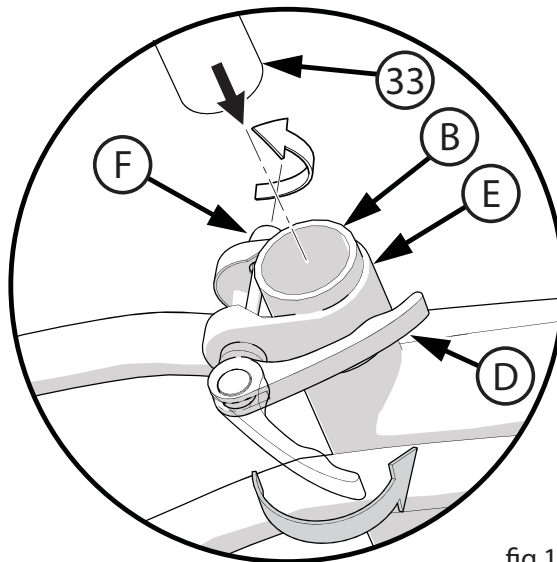

fig 11
- Open and close the Quick Release Lever with one hand while you turn the Adjusting Nut (F) with the other hand (**fig 11**).
- Push the Quick Release Lever to the “close” position (**fig 11**).
- When in the “close” position, make sure the Quick Release Lever lays against the Seat Post Clamp (E).